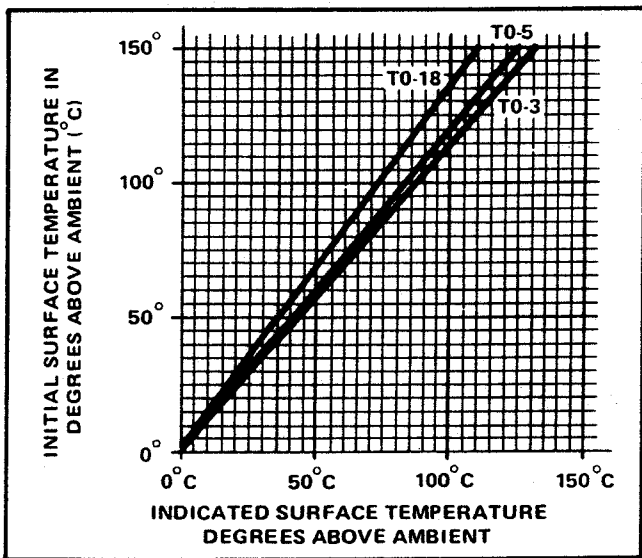

Figure 6-2. Initial Case Temperature Above Ambient vs. Meter Reading Above Ambient
3. To determine the actual surface temperature of a device, both the heat-sinking and steady-state errors must be considered. The correction curve given in Figure 6-2 approximates the effect of both error sources on TO-3, TO-5 and TO-18 transistor cases.